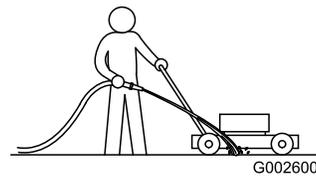

Figure 20
4. Hold a garden hose at handle level and spray a stream of water in front of the **right**, rear wheel (Figure 20).